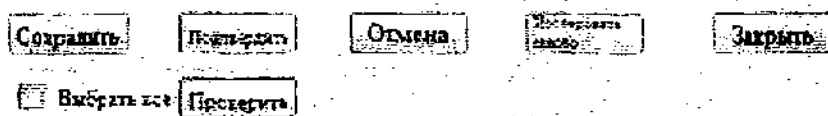

Fig. 7.2-8 Results Confirmation interface
- 1) After examining a sample, you should first fill in the result, then press the save button to save the information of the corresponding result in the section of this sample (Fig. 7.2-8).